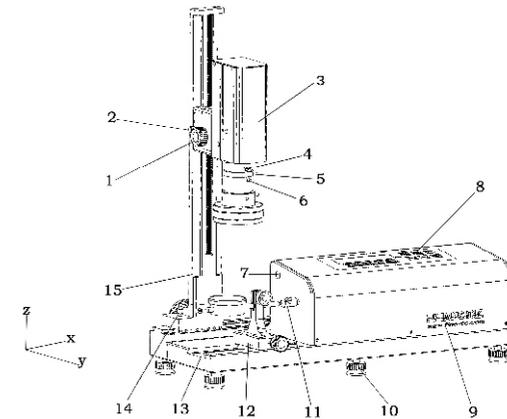
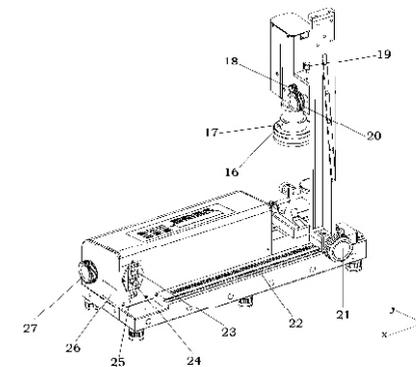
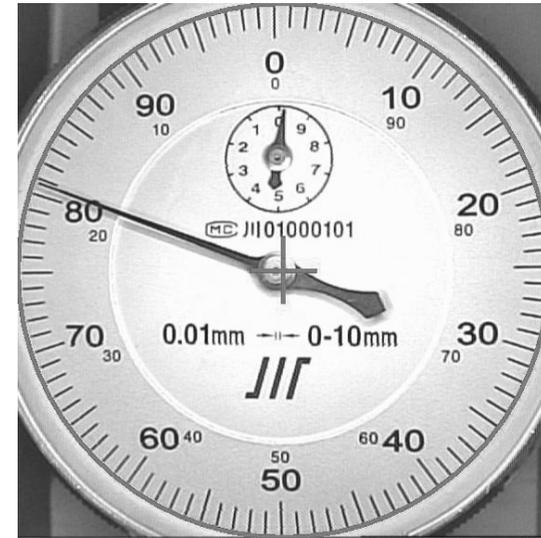

Figure 1
Figure 2
Figure 24
1. As showed in Figure 1, place the tested gauge on the sliding guide, move the clamp to make the gauge outfit about 3mm away from the feeler pin of the instrument, and then adjust the clamp's knob to fasten it.
2. Open the testing software to check if there is image in the "image display zone". If not, check if DV is well connected with the video line of the computer. If the connection has no problem but the display zone is still black, adjust "5.Lens aperture adjusting knob" in Figure 1.
4. Adjust "20.DV vertical adjusting knob" in Figure 2 to make the height from the lens to the surface of the tested gauge about 60mm (this height takes the most common dial gauges reading in 0.01 mm as the reference, and the actual distance may fluctuate with the size of dial: the bigger the dial, the longer the distance. The adjustment scope of the distance is usually "20–30mm of the reference height).
5. Adjust "21.Column horizontal fixing knob" in Figure 2 to make the tested gauge is within the visual scope of the lens (this knob makes the image move vertically).
6. If the image in the "Image display zone" of the testing software is very dim, adjust "6.Lens focus adjusting knob" in Figure 1 to make the image clear.
7. Adjust "4.Lens object distance adjusting knob" in Figure 1 to make "image positioning circle" tangent to the scale mark of the tested gauge. After adjusting the object distance, focus and aperture of the lens during coarse adjustment, you can start the fine adjustment.
1. Firstly, check the image of "Image display zone". If there is obvious shade in the image zone, adjust "20.DV vertical adjusting knob" in Figure 2 to make the shade on the surface disappear, so that the surface of the tested gauge receives light more evenly.
2. Adjust the image into the effect showed in Figure 24 by adjusting "1. DV's horizontal adjusting knob" (make the image move horizontally) in Figure 1 and "21. Column horizontal fixing knob" (make the image move vertically) in Figure 2.